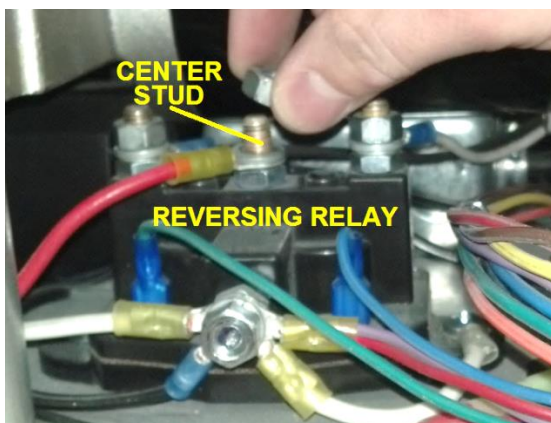

FIG. 11.5
6. Remove $\frac{1}{2}$ " nut from center stud on reversing relay. (FIG. 11.5).